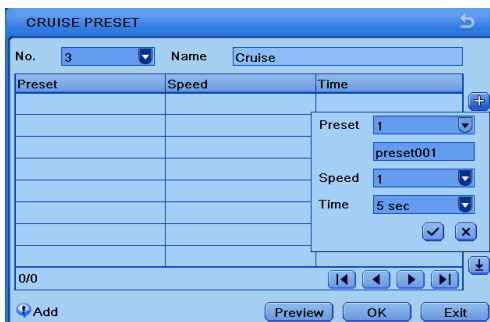

Fig 4-39 Modifying Cruise Line
- ② Click Add button to add cruise line in the list box (8 cruise lines can be added at most).
- ③ Select a cruise line and click “Setup” button to see a dialog box as Fig 4-39.
- ④ Click “Add” icon  to set the speed and time of preset point. Select a preset point and then click Delete icon  to delete that preset point. Click Modify icon  to modify the setting of a preset point. User can click     those icons to adjust the position of preset point. Click “Preview” button to preview the cruise line. Click “OK” button to save the setting.